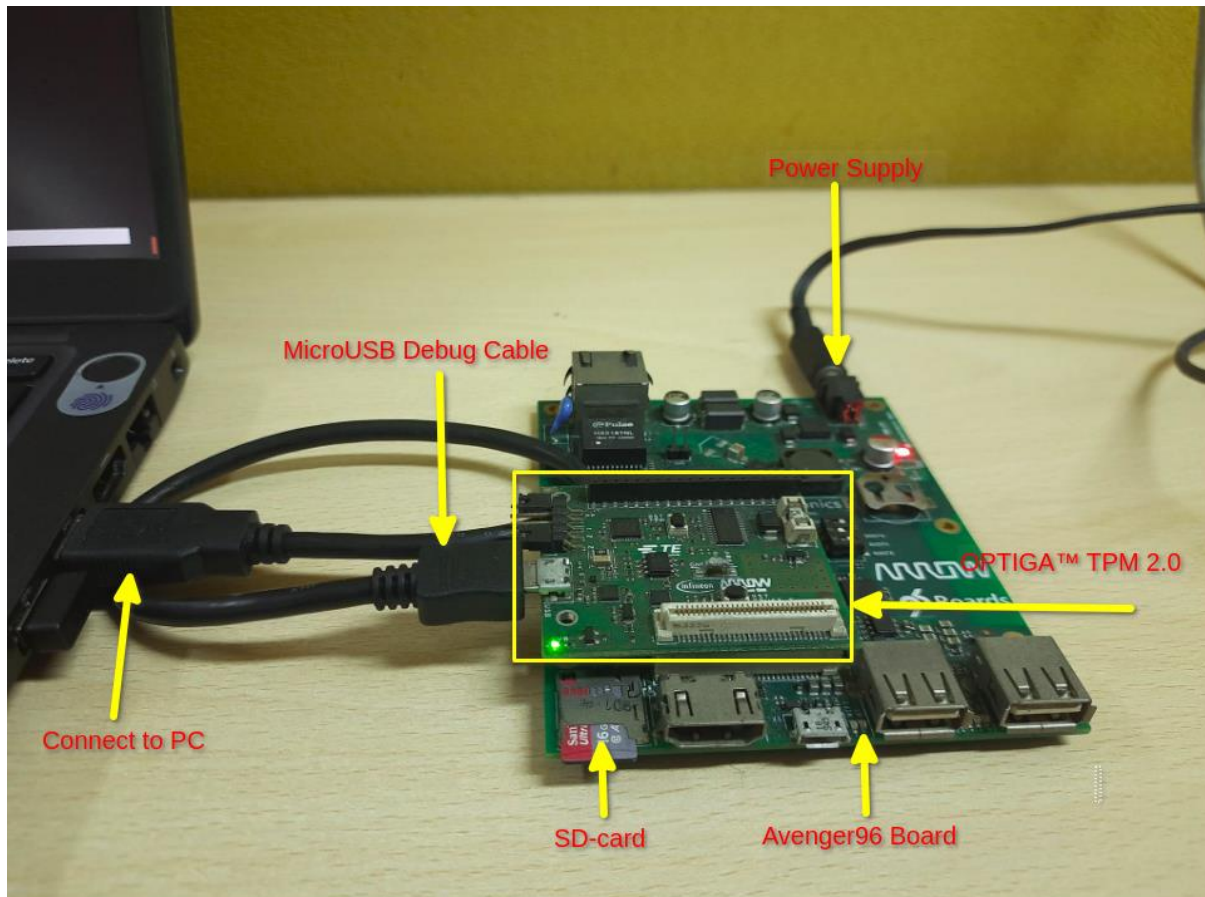

Figure 2: Hardware Connection Setup on Avenger96 board
The mezzanine will be mounted on top of the Avenger96 board as shown in Figure 2. When the Avenger96 board is powered-up, the Power LED on the OPTIGA™ TPM2.0 board turns on, indicating that the board is correctly connected.
2. Connect Micro USB Debug Cable on OPTIGA™ Tresor as shown in above Figure 2.